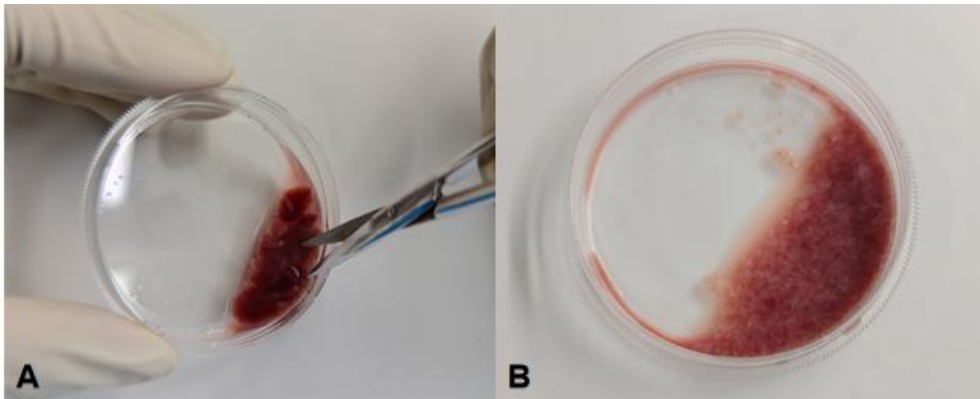

Figure 1. Treatment of liver tissue in vitro
- (1) Tissue Washing: Using a new set of ophthalmic scissors 3, curved forceps 1, bend forceps 1 to clamp the junction of the liver lobes and gently shake the liver tissue. At this time, blood stains flow out. discard the liquid in the dish and add new wash solution until the tissue is completely immersed. Rinse the tissue 2-3 times and use ophthalmic scissors 3 and curved forceps 1 to clean the blood stains, bile ducts, and blood vessels around the liver to obtain pure tissue. Transfer the tissue to a new glass culture dish, Add a little of **Specialized Washing Solution For Mouse Kupffer cells** until it just covers the tissue.
- (2) Tissue Processing: Tilt the dish about 45° to allow the liver tissue to gather at the bottom of the dish(which can be gently scraped off with curved forceps 1). Quickly cut the tissue into 1 mm³ pieces using ophthalmic scissors 3, until the tissue is sugar like (as shown in Figure 1) and there are no large pieces of tissue. Use a Pasteur pipette or a pipette with a wide mouthed tip to transfer the tissue fluid and transfer it to a 50 mL centrifuge tube. Add 5 mL **Specialized Washing Solution For Mouse Kupffer Cells** to clean the liver tissue culture dish and transfer it to the same centrifuge tube. Centrifuge at 300 g for 1 min, discard the supernatant, and retain the tissue precipitate.
- (3) Tissue Digestion: Add 5 mL of **Digestive Working Solution for Mouse Kupffer Cells** to the 50 mL centrifuge tube tissue sediment, blow and mix well, tighten the bottle mouth, wrap it with a sealing film to ensure no leakage, tilt it to allow tissue fragments to fully contact the digestion solution at 4°C for 16 hours of digestion (digestion time should not exceed 16 hours, as excessive digestion will have a significant impact on cell activity).
- (4) After digestion, remove the centrifuge tube and transfer it to a 37°C water bath shaker at 150 rpm for 15 minutes of digestion..
- (5) In the ultra-clean workbench, place a 70 µm Cell filter and 100 µm Cell Filter on a new 50 mL centrifuge tube. Pre-wash the filter with 1–2 mL Specialized Washing Solution For Mouse Kupffer Cells.
- (6) Cell Filtration: Remove the centrifuge tube and open it in the ultra-clean workbench. Blow the tissue suspension with a 5 mL pipette tip at least 30 times. Add 5 mL of **Specialized Washing Solution For Mouse Kupffer Cells** to dilute. Take the cell suspension at this time and filter it through a 100 µm cell filter and a 70 µm cell filter in sequence to collect the filtrate.